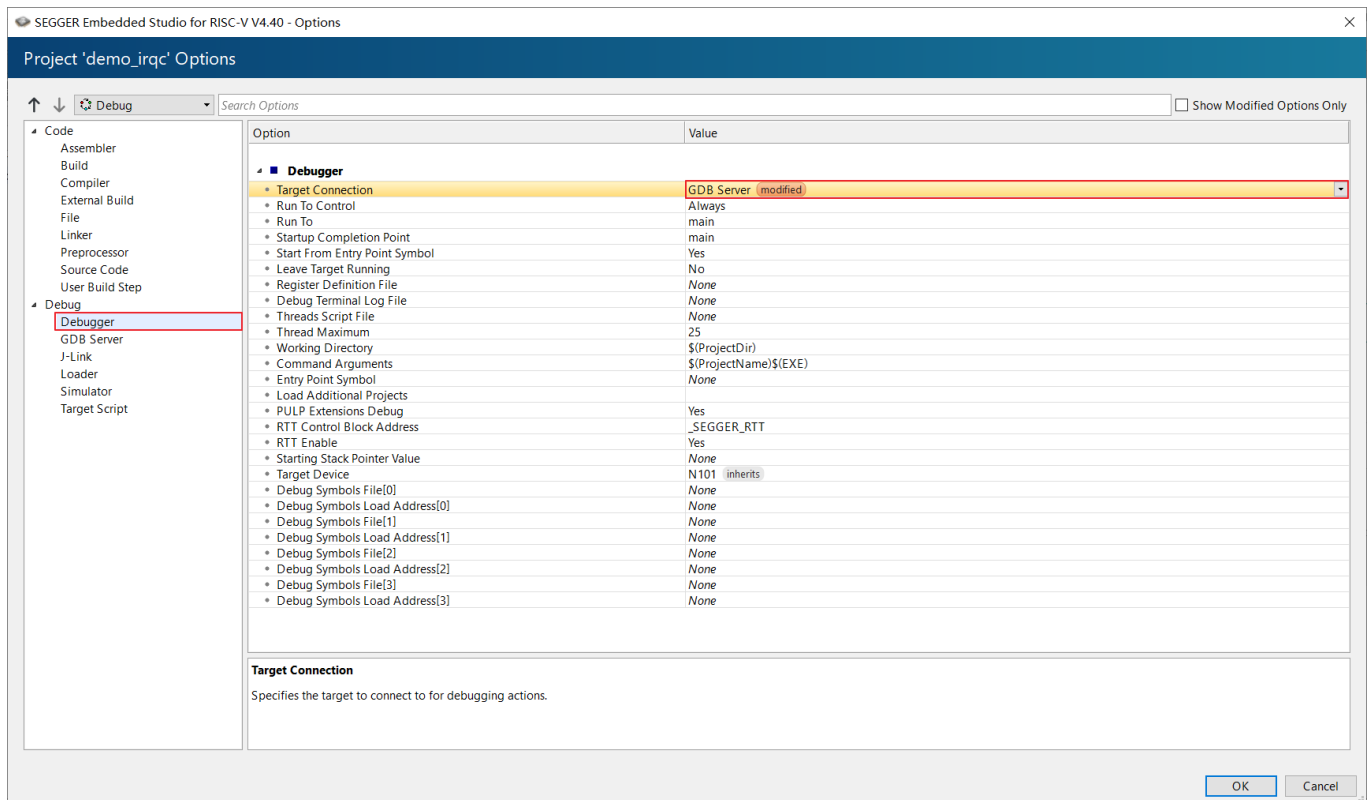

Figure 4-3 Set to Use GDB Server
- Change the “Target Connection” option to “GDB Server” under the “Debugger” column, as shown in Figure 4-3.